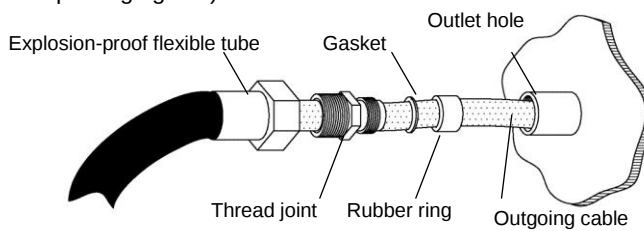

Figure 7.
a. As shown in Figure 7, attach the explosion-proof flexible tube assembly onto the cable; after removing the hold-down nut, reserve standard gasket and rubber ring (it is also OK to use spare parts in the packaging box).